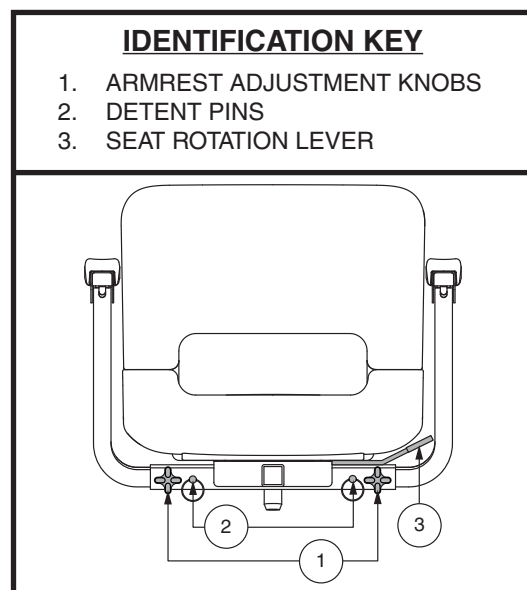

Figure 15. Seat Adjustments – Style A
1. Loosen the armrest adjustment knobs. See figure 15.
1. Depending on your seat type, either pull upward or push forward on the seat rotation lever to disengage the seat. See **figure 15 or 16**.